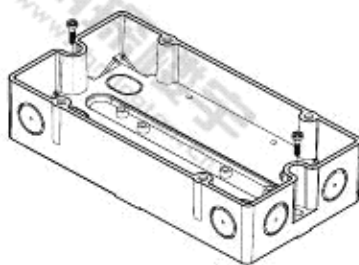

Fig. 4
3. Use two screws to fit the housing on a plane surface (Fig. 4). Distance between holes:  $182.0 \pm 1.0\text{mm}$ .